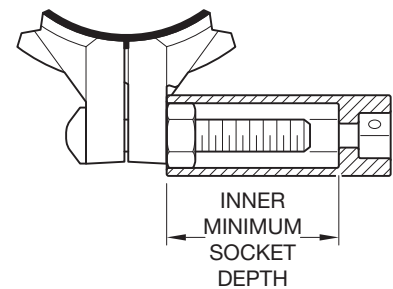

FIGURE 4
Step 5. Tighten nut to the recommended bolt torque (See Figure 4). Visually inspect the coupling to ensure that the housing keys are engaged into the pipe grooves.
Bolt lengths require the use of deep or extra-deep-well sockets. Sockets inner depth information is supplied for reference only. (See Figure 4) For specific socket recommendations, contact Technical Services.